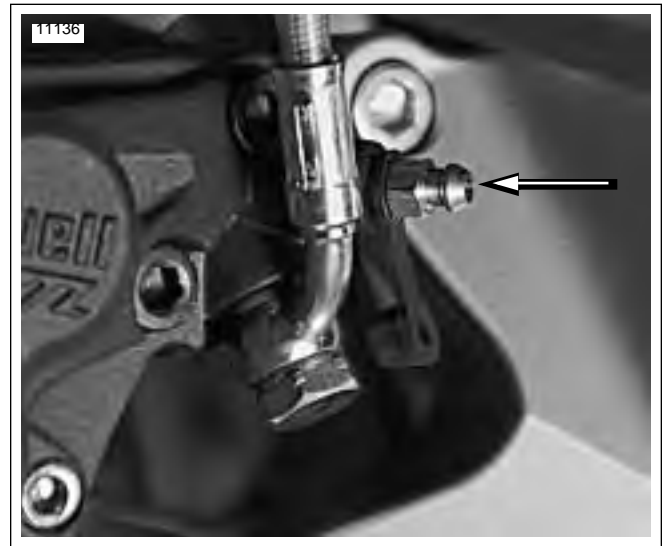

Figure 1-9. Front Caliper Bleeder Valve (cap removed)
1. See Figure 1-9. With motorcycle upright, install end of plastic tubing over front caliper bleeder valve and place other end in a clean container.